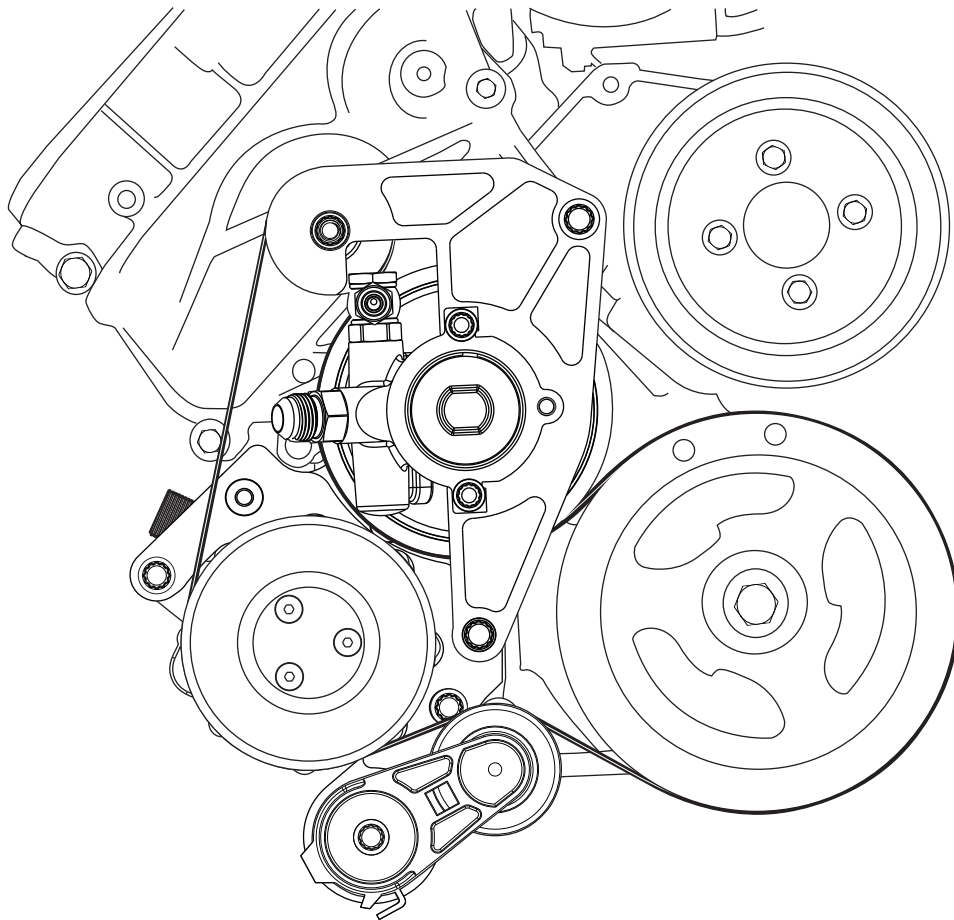

Figure 15
1. Route belt over pulleys and remove rod/holding bolt. Belt should be installed as shown in Figure 15, below.